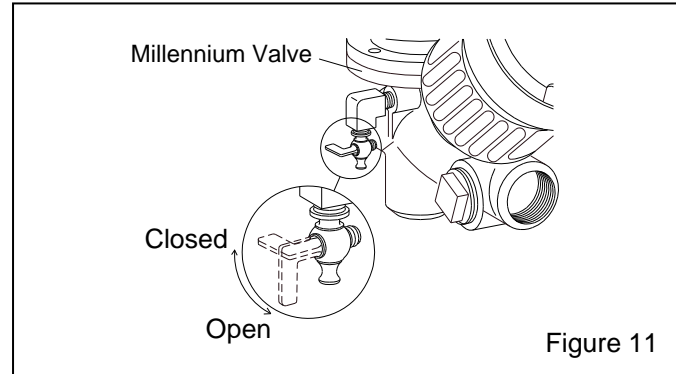

Figure 11
**3.2.10** Make sure the safety petcock on the Millennium valve. Open position is when the lever is aligned with the petcock, as shown in Figure 11.